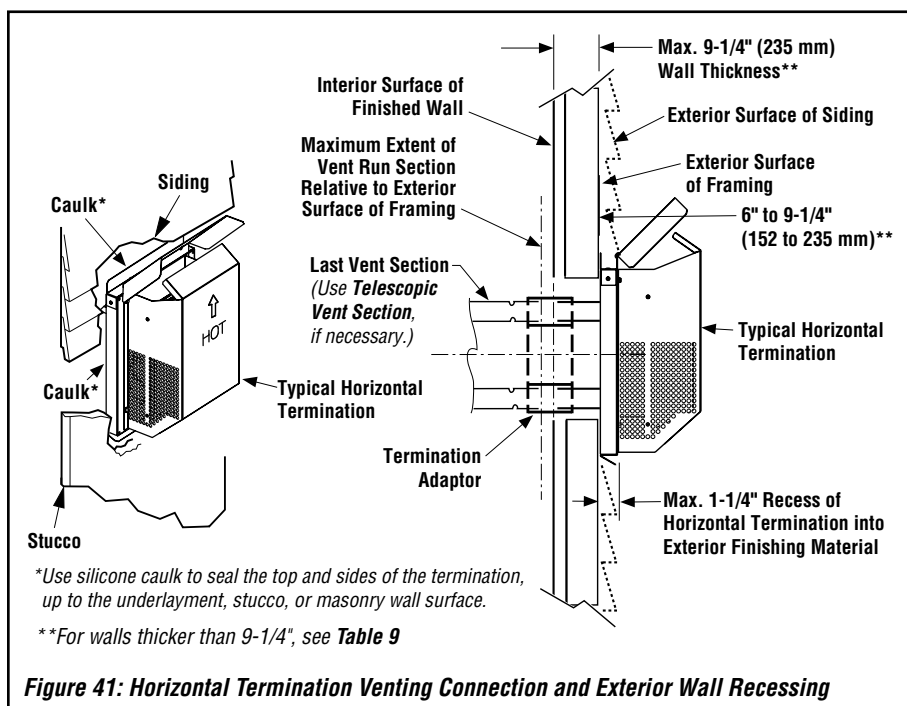

Figure 41: Horizontal Termination Venting Connection and Exterior Wall Recessing
Note: For walls thicker than those shown in **Figure 41**, see **Table 9**, which lists additional venting components needed (in addition to the termination and adaptor) for a particular range of wall thicknesses.
See **Figure 41**. Attach the **termination adaptor** (provided with the termination) to the vent section (or telescoping vent section or elbow) in the same manner as the other vent components (see "Attaching Secure Vent® Components" on **Page 13**).
- Orient the termination housing with the arrow pointing UP (see **Figure 41**).
NOTE: The horizontal termination must not be recessed into the exterior wall or siding by more than 1-1/4" (32 mm), as shown in **Figure 41**.